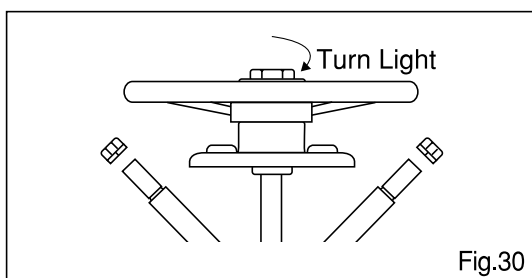

Fig.30
1. Removing stem, actuator plate, handle : Remove yoke ⑦ and actuator plate nut. Remove stem ⑤, actuator plate ⑩, handle ⑫ from the yoke sleeve ⑨ by turning the handle ⑫ clockwise. (Fig.30)